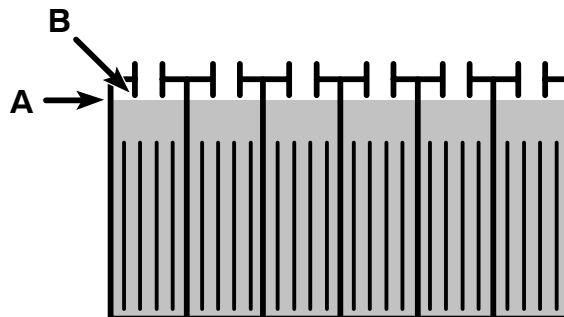

FIG. 32
7. After charging, check the electrolyte level (A) again. The level should be approximately 0.38 in / 1 cm from the bottom of the fill-port (B) (Figure 32). Add distilled water if needed. DO NOT OVERFILL.